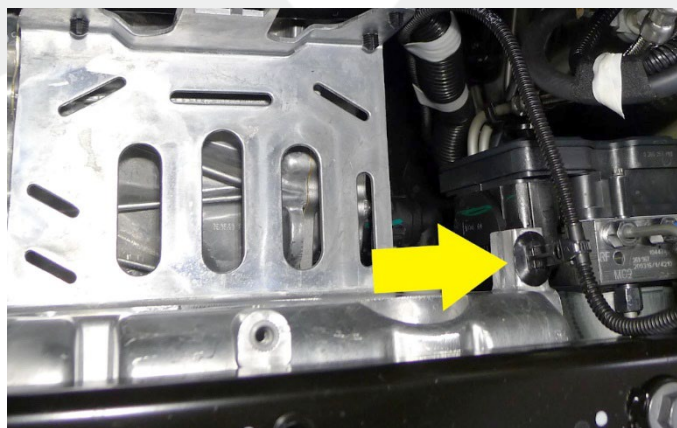

Figure 47
41. Fasten the clip that attaches the battery vent tube to the battery bracket (Figure 47).